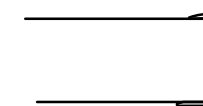

FIG.2
- 2) TAP END CAP INTO PLACE WITH RUBBER Mallet OR SOFT WOOD. FIG.2